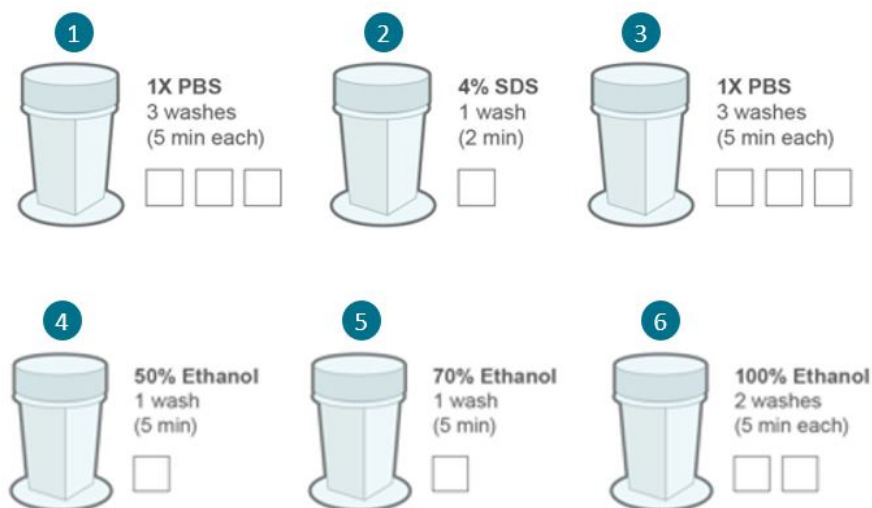

Figure 29: Rehydrate and Fix Tissue
1. After NBF fixation, **gently perform the following washes** using staining jars (Figure 29).